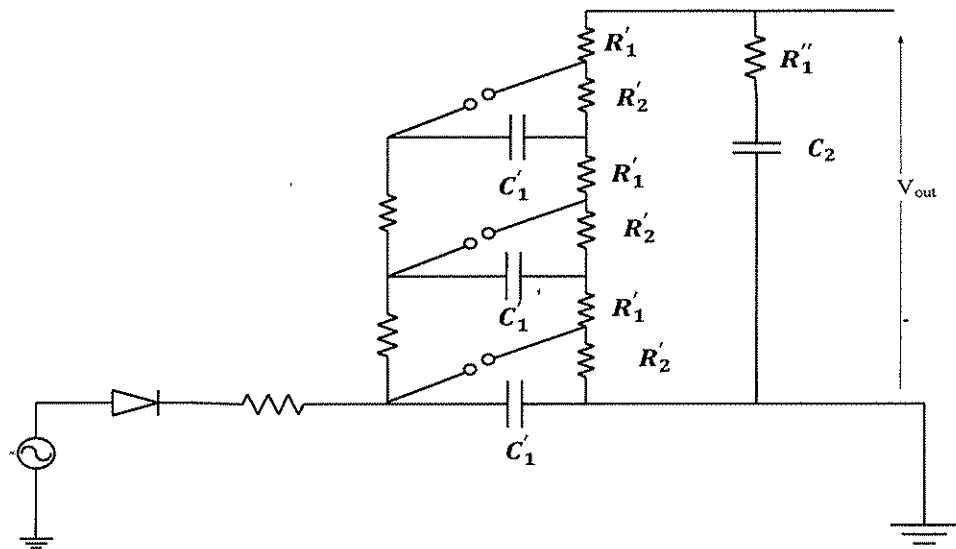

Figure 8: A 3-stage impulse voltage generator
- v) A 3-stage Marx impulse generator has parameters and configuration as shown in the Figure 8 below with the following components: each of the distributed internal front resistors is 75Ω , tail resistors each $2 \text{ k}\Omega$, external front resistor 100Ω , the internal storage capacitors each $0.25 \mu\text{F}$ and external discharge capacitor 2 nF . Calculate its total equivalent storage capacitance C_1 , front resistor R_1 and tail resistor R_2 . Also calculate the corresponding time constants in the time domain impulse voltage wave expression.